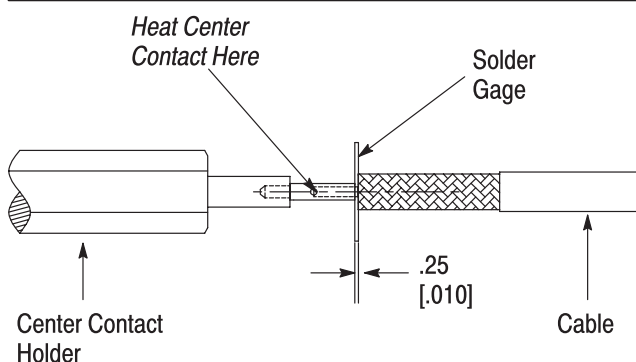

Figure 4
4. Heat the center contact and push it over the center conductor of the cable to rest firmly against the solder gage. See Figure 4.